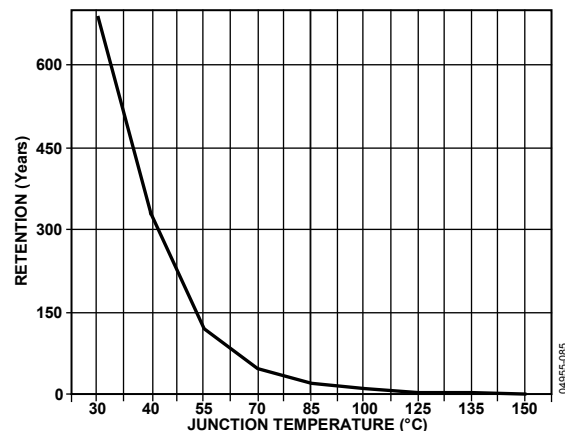

Figure 12. Flash/EE Memory Data Retention
Retention quantifies the ability of the Flash/EE memory to retain its programmed data over time. Again, the parts is qualified in accordance with the formal JEDEC Retention Lifetime Specification (A117) at a specific junction temperature (T)= 85°C). As part of this qualification procedure, the Flash/EE memory is cycled to its specified endurance limit, described previously, before data retention is characterized. This means that the Flash/EE memory is guaranteed to retain its data for its fully specified retention lifetime every time the Flash/EE memory is reprogrammed. Also note that retention lifetime, based on an activation energy of 0.6 eV, derates with Tj as shown in Figure 12.